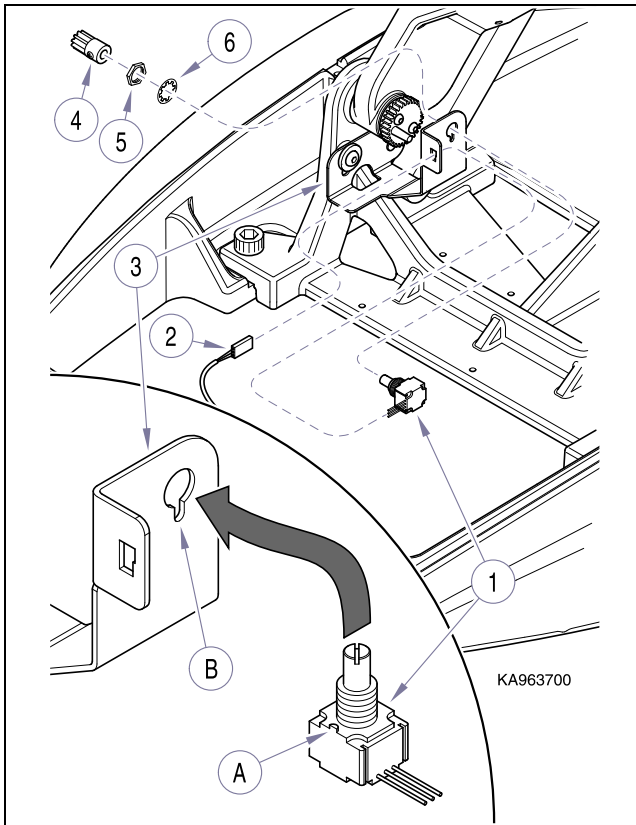

Figure 4-19. Base Potentiometer
If necessary, base positioning potentiometer (1, Fig. 4-19) can be over-ridden in order to operate Base section. While holding down **Program** button on membrane or foot switch, press desired **Base** directional button.
- (2) Disconnect plug connector (2, Fig. 4-19) from base positioning potentiometer (1).
- (3) Remove lower sensor bracket (3) and potentiometer (1), two screws.
- (4) Loosen screw, and remove pinion gear (4) from shaft of potentiometer (1).
Locator notch (A) on potentiometer (1, Fig. 4-19) fits into cut-out (B) of lower sensor bracket (3).
- (1) Secure potentiometer (1, Fig. 4-19) to lower sensor bracket (3) with lockwasher (6) and mounting nut (5).
- (2) Install pinion gear (4) onto shaft of potentiometer (1) and secure with screw.
- (3) Position bracket (3) and potentiometer (1) onto chair and secure with mounting screws.
- (4) Connect plug connector (2) to potentiometer (1).